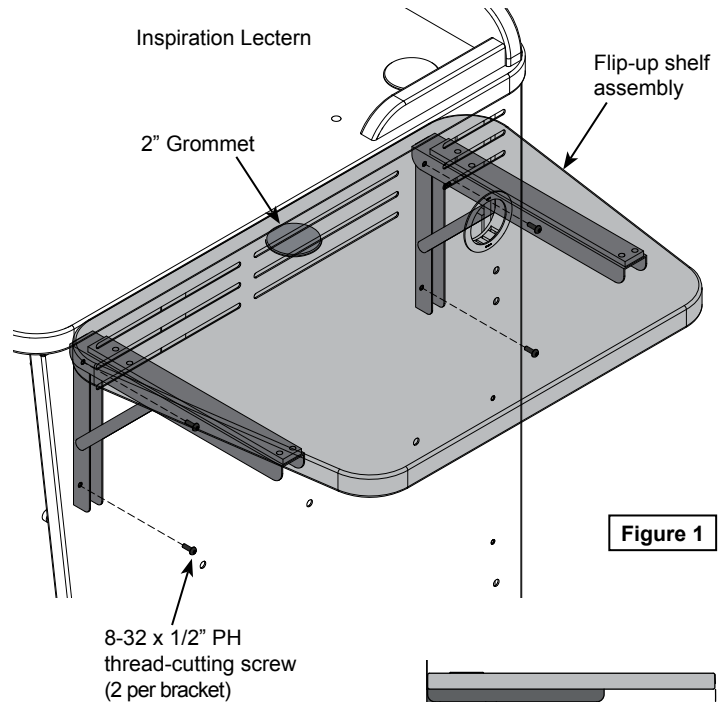

Figure 1
2. Extend and lock the folding shelf brackets into the horizontal position. **Figure 1**.
3. Align and attach each bracket to the side of the lectern with (2) 8-32 x 3/8" PH thread-cutting screws. A second person may help by supporting the shelf during installation.